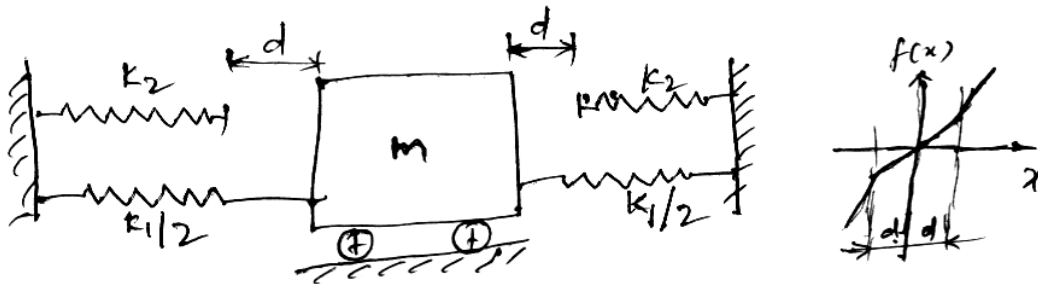

Fig Q9.
- 9. For the system shown in Fig. Q9, find the time period per cycle as a function of amplitude of vibration shown this is the form of a graph. 20